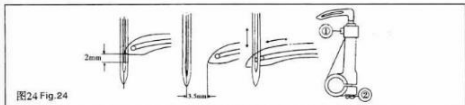

图24 Fig.24
十九. 弯针的勾取量 (图24) Thread-guiding amount of the looper (refer to Fig.24)
1. 弯针的针尖到达机针的中心位置时, 弯针针尖离机针上端的距离标准值是2mm, 此时针杆下刻线和针杆下衬套下端面对齐。 (如图24)
3. 机针孔和弯针孔的相对关系如 (图24) 所示。 (左右弯针可以分别调整)
1) The standard value of the vertical distance of the point of the looper away from the upper end of the eye of the needle is 2mm, then the graduation mark on the lower part of the needle bar shall be in line with the lower end of the needle bar bushing, lower. (Refer to Fig.24)
3) The relation between the eye of the needle and the eye of the looper is indicated in Fig.24. (Note that the left looper and the right one can be separately adjusted.)